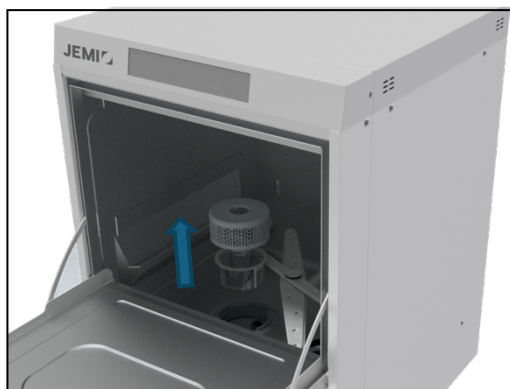

Fig3.
- Press the ON/OFF button (Fig3. No.7). The ON/OFF startup logo will change from red to green.
- First, the board will check the water levels in the machine and fill it if necessary. The animated icon (Fig3. No.8) indicates that the phase is in progress. At the same time, the START button (Fig3. No.9) will be yellow.
- When the washing cycle starts, the START button (Fig6. No.12) changes from green to blue. The ON/OFF button (Fig3. No.7) also changes from green to blue. The washing process can be seen on the display. The circle around the wash cycle symbol increases as the process progresses until it reaches the edges of the display (Fig7.).
- Remove the pump filters and wash them under a tap. See Fig. 3.